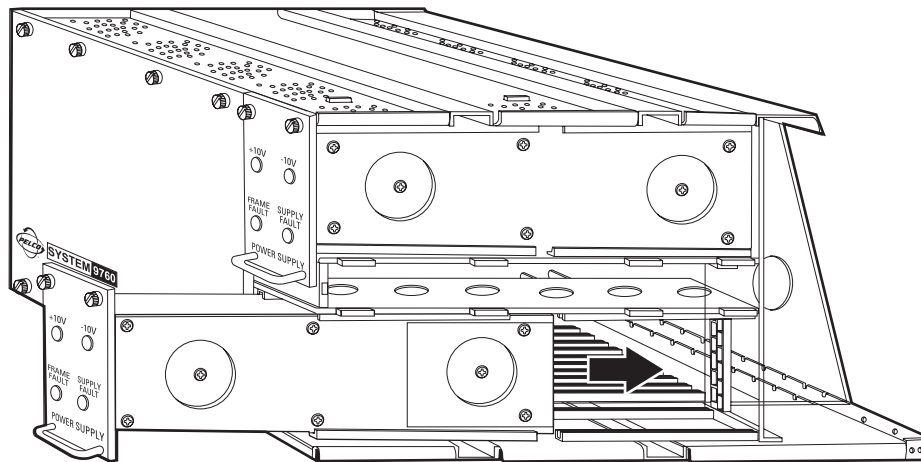

Figure 32. CM9760-MXB Backup Power Supply Installation
2. Align the power supply in the mounting rails and then slide the power supply into the slot (refer to Figure 32).
7. Place the power switch of the power supply in the On (I) position.